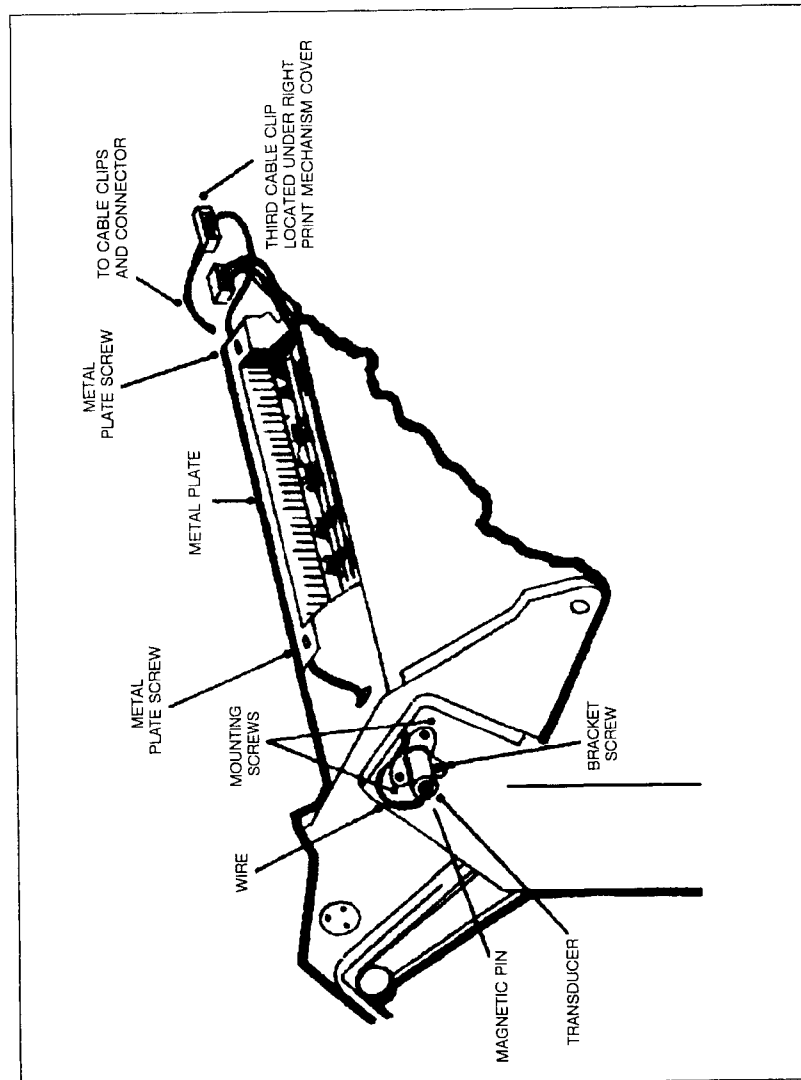

Figure 6-27. Velocity Transducer Removal
The velocity transducer consists of two parts: the magnetic pin and the transducer body (coil). The magnetic pin is threaded into the left end of the printbar assembly. The body is mounted on the left side of the upper casting, as shown in Figure 6-27. Removal and replacement procedures follow:
- a. Switch the printer offline and the ON/OFF switch to the OFF (0) position.
- c. From the top of the printer, remove the metal plate which covers the wire trough across the top of the print mechanism assembly (see Figure 6-27).
- e. Remove the four Pozi-drive screws and lock washers securing the metal wire harness assembly to the top of the printbar mechanism (see Figure 6-27). Be careful not to drop the washers.